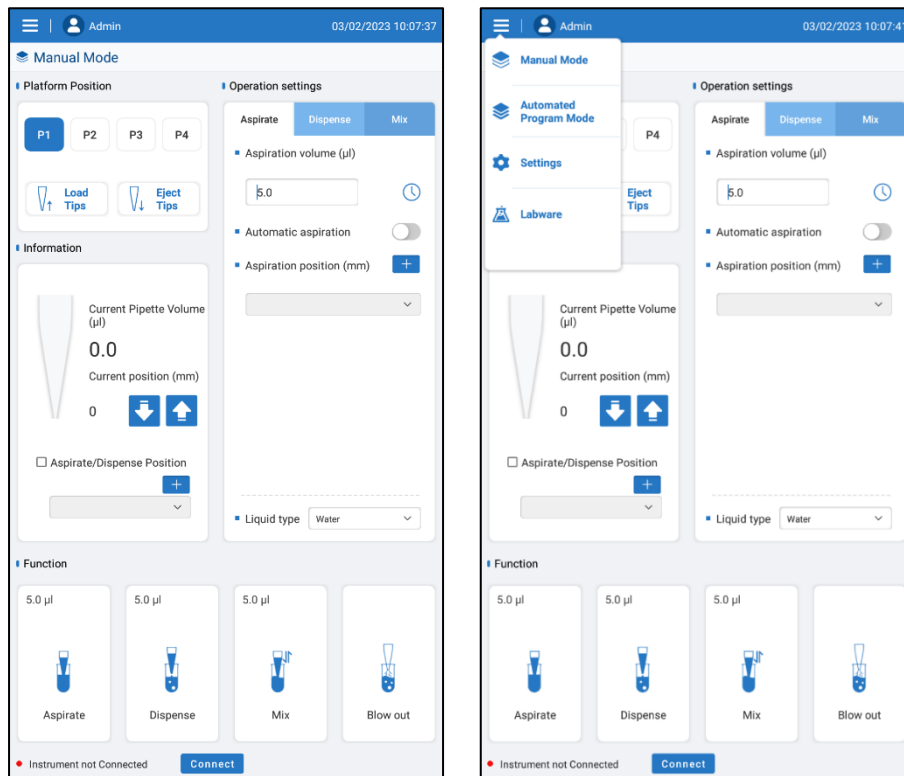

Fig. 5 AutoMATE™ 96 Application Main Interface
- Turn on the main power switch, as depicted in Figure 5, to the "I" position. Confirm that the instrument is powered on and that the Operational Indicator Light is lit.